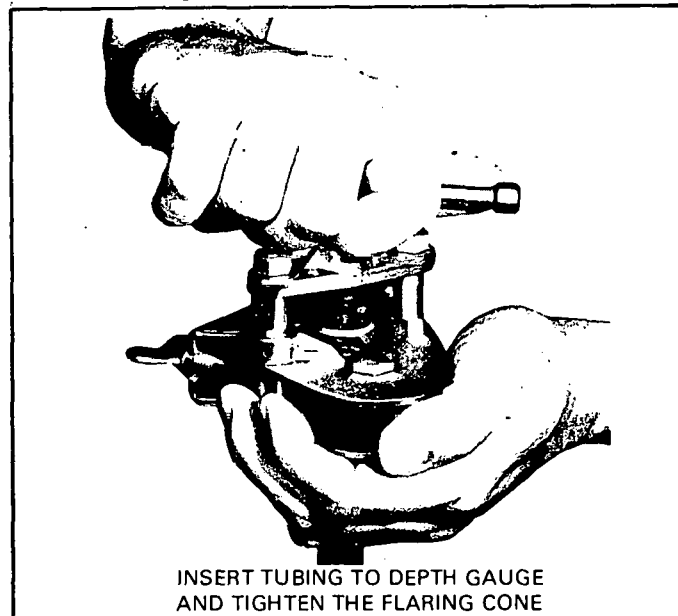

FIGURE 10
- c - Flare tubing with a flaring tool as illustrated in Figure 10.